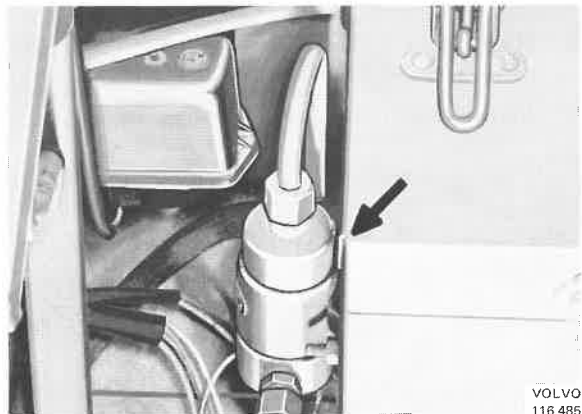

Fig. 38-19. Solenoid
2. Slacken the pipe and hose connections at the solenoid several turns, see Fig. 38-19.